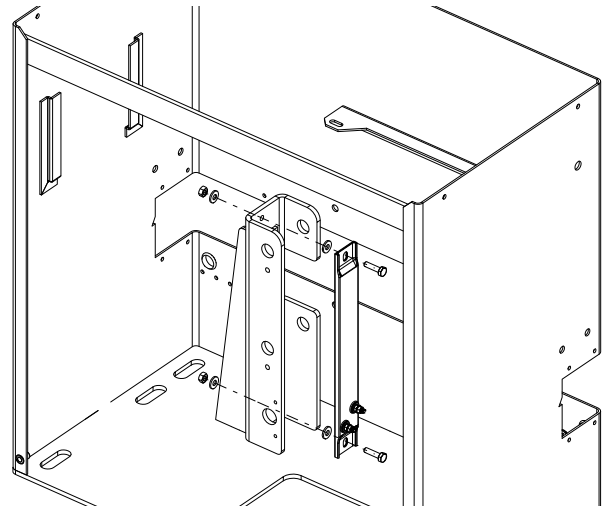

Figure 7. Install Heater Strip
9. Install the heater strip vertically in the drive post with the terminals down and facing out with the 1/4-20 x 1 in bolts (Figure 7).